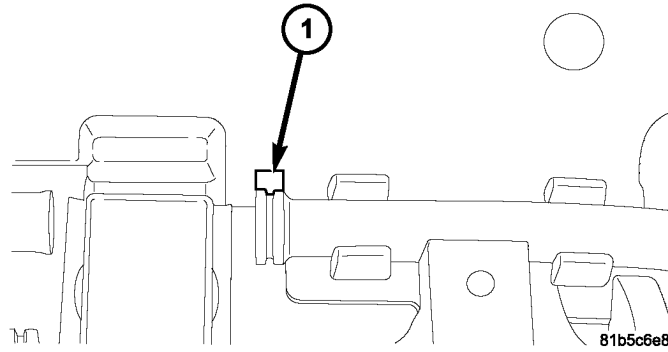

Fig. 2 CONDUIT FLARE INTO NOTCH
4. Assemble new cable conduit, p/n 68003812AA, in reverse order of (Step #3) by inserting the flared end over the exposed end of the drive cable. Insure the flared end is sitting in the notch on the rear bulk head of sunroof module, (Fig. 2).